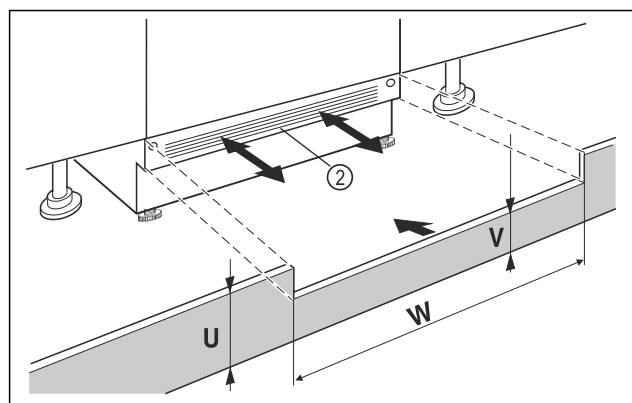

Fig. 37 Example illustration
- Put on the appliance base cover Fig. 37 (2) but do not fix it in place yet.
- If the base panel is visible Fig. 37 (2), pull it forwards so that the front edge of the ventilation grille and the unit base panel are level.
- If the base panel is concealed Fig. 37 (2), push it all the way back.
- Ensure that the ventilation slots are completely free: If necessary, cut the height of the unit base panel Fig. 37 (U) to size!
- Adjust the web height Fig. 37 (V) under the appliance base panel Fig. 37 (2) along the niche width Fig. 37 (W).